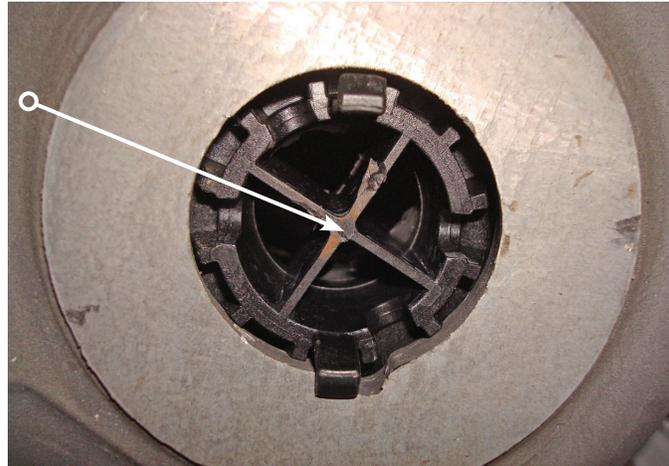

fig. 3
4. Once the hole is created; in order to make access to the barb on the cylinder it will be necessary to remove the cross ribs from the lower spring retainer (Fig. 3).